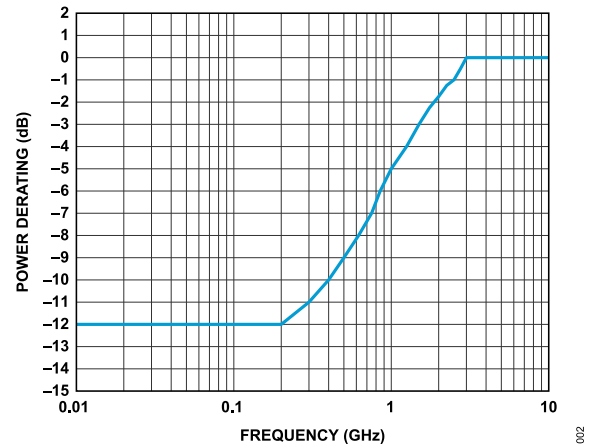

Figure 2. Power Derating vs. Frequency, Low-Frequency Detail, $T_{CASE} = 85^{\circ}\text{C}$.
² For power derating over frequency, see Figure 2.
- For power derating over frequency, see Figure 2.
The power handling of the ADRF5032 derates with frequencies below 3 GHz. See Figure 2 for derating of the RF power towards lower frequencies.